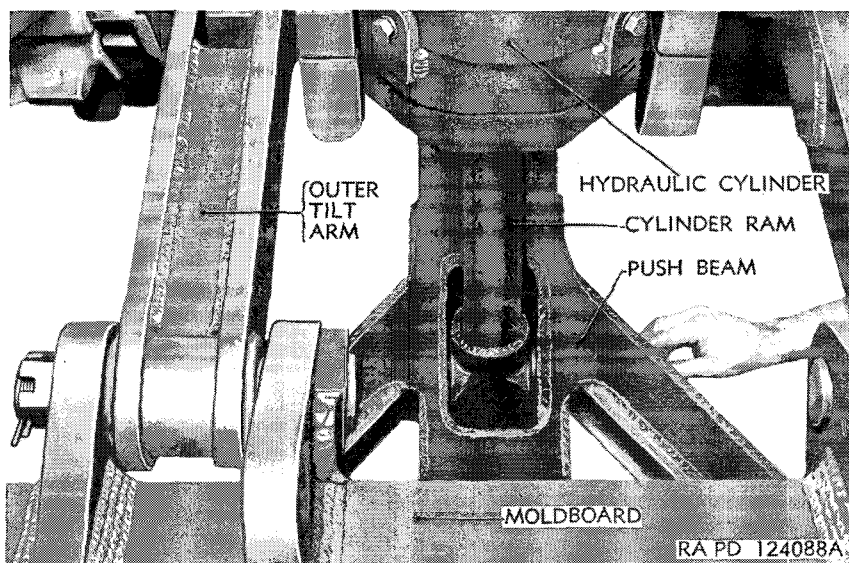

Figure 19. Connecting left-hydraulic-cylinder ram to left push beam.
n. Using the hoist, jockey the moldboard, while the operator holding the guard continues to pull the top of the cylinder back and forth until the eye of the ram is properly aligned with the pin holes in the push beam. Install the pin which connects the ram to the push beam, inserting this pin from the outside toward the inside through the opening in the outer side of the push beam (fig. 19).